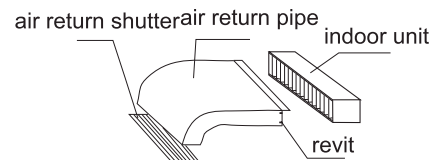

Fig.1
2. Installation of the air return pipe: Connect one side of the air return pipes to the air return port of the indoor units with rivets, with the other side connected to air return shutter, as shown in Fig. 1.
- (1) Cut a hole in the wall and insert connection pipe and connecting wires through a locally purchased PVC pipe. The hole should be inclined slightly downward with an inclination of at least 1/100 (see Figure 1).
- (2) Before cutting the hole, ensure no pipe or rebar is placed behind the cutting position. Avoid cutting a hole at the place of wires or connection pipes.
- (3) Hang the unit on a horizontal and firm roof. If the unit base is not stable, it may cause noise, vibration or leakage.
- (4) Support the unit firmly and change the shapes of connection pipe, connecting wires and drain pipe to make them easily get through the hole.